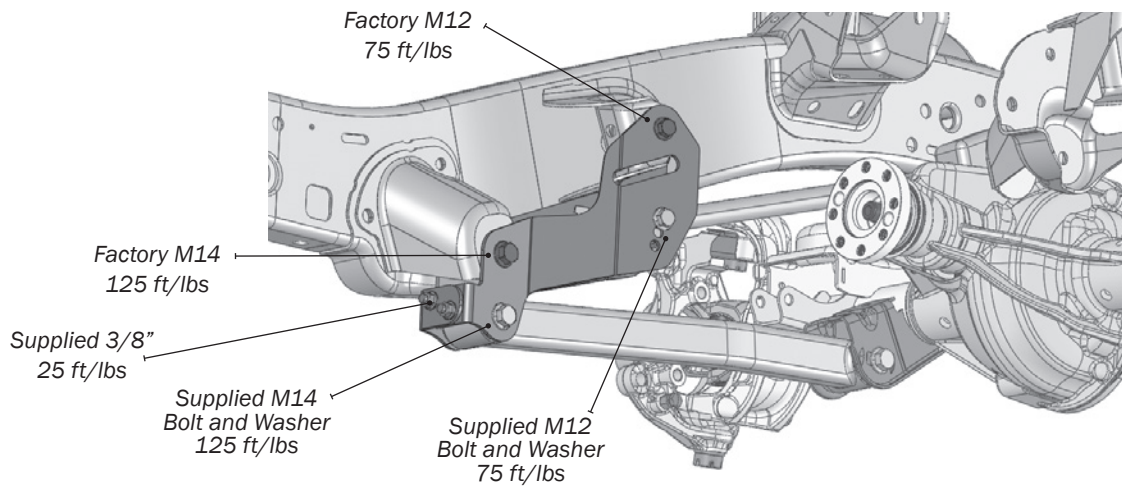

Figure 2
5. Use the supplied bolts, nuts, and washers to mount the control arms in the new dropped locations. Use M12 fasteners for the upper control arms and M14 for the lower control arms (Fig. 2). **NOTE: Use Red Loctite on M14 Bolts.**